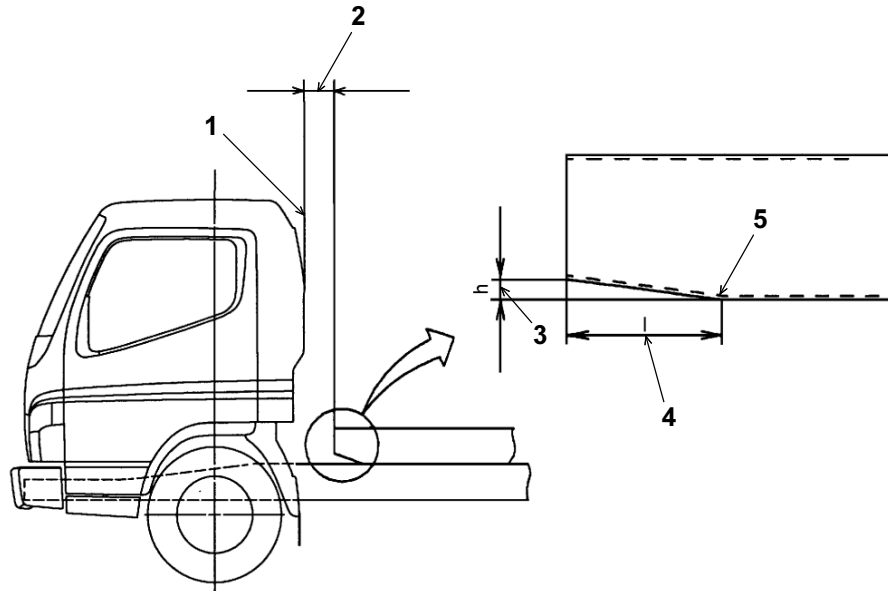

Fig. 4
- (c) If it is difficult to shape the front end of the mounting frame as described in Fig. 2 and Fig. 3, cut it to the shape as shown in Fig. 4 before installation.